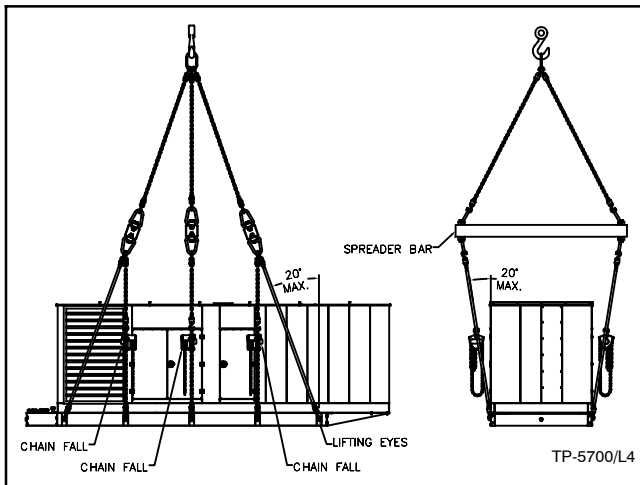

Figure 2-14 Ten Eyes, Three Spreader Bars, and Six Chain Falls Lifting Method
Apply three spreader bars and six chain falls (Figure 2-14) for ten eye lifting.
- Install a pair of outer slings up to the maximum angle as shown in Figure 2-14.